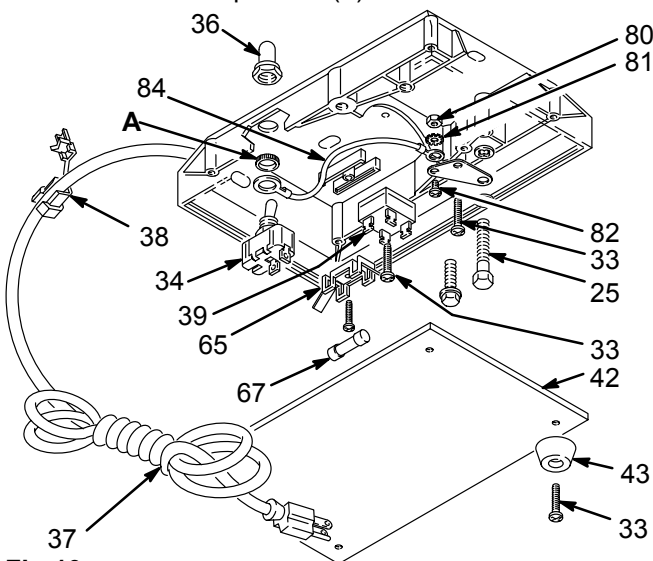

Fig 10
#### Fuse (See Fig 10.)
#### ON/OFF Switch (See Fig 10 and 11.)
2. Remove the boot (36) and pull the switch (34) out of the base. Remove the ground wire (84). See Fig 10.
3. Remove the top nut (A) from the new switch. Place the ground wire connector (84) on the switch and re-install the nut. Install the new switch, aligning the tab in the base with the slot in the switch. See Fig 10. Install the boot.
#### Power Supply Cord (See Fig 10 and 11.)
To maintain grounding continuity in your system, and to reduce the risk of electric shock, check to be sure the ground wires are properly connected. The power supply cord's green ground wire connects to the screw (82), and the ground wire (84) connects between the ON/OFF switch and the screw (82). Also be sure the screws (25 and 33) are tightly screwed into the base. See Fig 10 and 11.